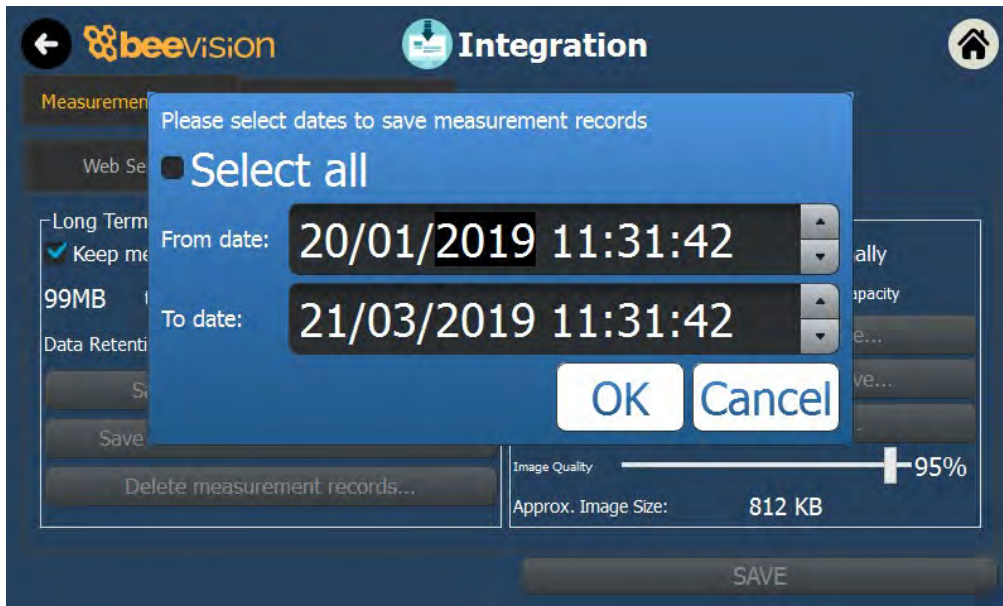

FIGURE 15: INTEGRATION PAGE FILE SHARING TAB
**Save records to a USB drive:** Shows the list of the USB drives connected to Resolution Dimensioners USB ports. When one selected, measurement records can be saved to that USB drive. Users will be asked to select a time interval to download the results in that interval as shown in Figure 15.
**Save records to a network address:** Searches and shows the list of available drives in the same network as Resolution Dimensioner. When a folder is selected, measurement records can be saved to that address. Users will be asked to select a time interval to download the results in that interval as shown in Figure 15.
**Save images to a USB drive:** Shows the list of the USB drives connected to Resolution Dimensioners USB ports. When one selected, measurement images can be saved to that USB drive. Users will be asked to select a time interval to download the images in that interval as shown in Figure 15. The naming scheme of the images are as follow:
**Save images to a network address:** Searches and shows the list of available drives in the same network as Resolution Dimensioner. When a folder is selected, measurement images can be saved to that address. Users will be asked to select a time interval to download the images in that interval as shown in Figure 15.